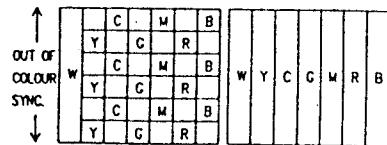

Figure 5
- 3) Adjust the APC control (VC101) so that the colour bar pattern stands still vertically or drifts slowly across the picture screen (See Figure 5).